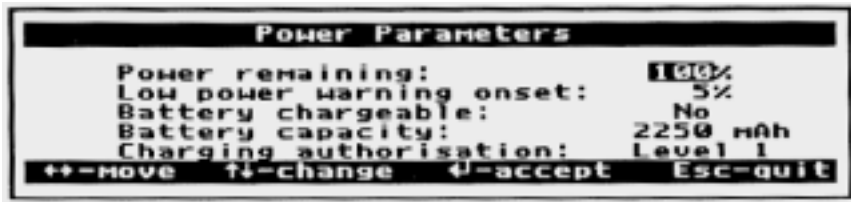

Figure A.2: FS/2 or FS/3 Power Parameters Screen
5. If the FS/2 or FS/3 has been recharged, or if a power interruption has occurred (e.g., the batteries were replaced), then the FS/2 or FS/3 power parameters screen may appear, similar to Figure A.2 . If this is the case, change the settings as appropriate (continue or stop recharging), then press **ESC** until you get a DOS prompt, and continue with step 7, otherwise go to step 6.